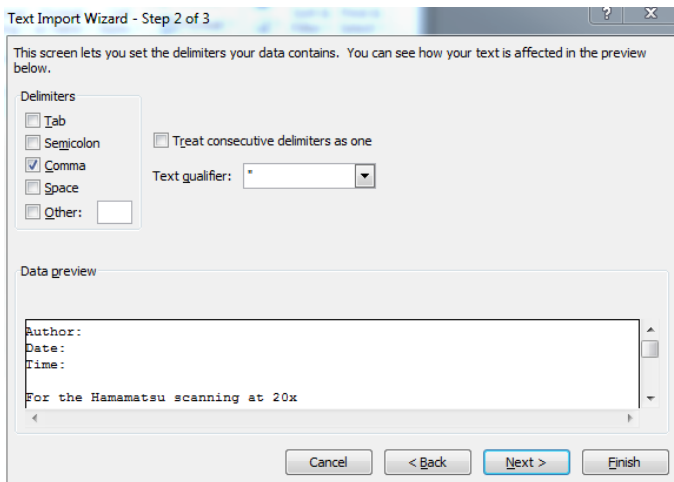

Figure 1
6. Find "**Delimiters**", and select "**Comma**" in this case (*Figure 1*)